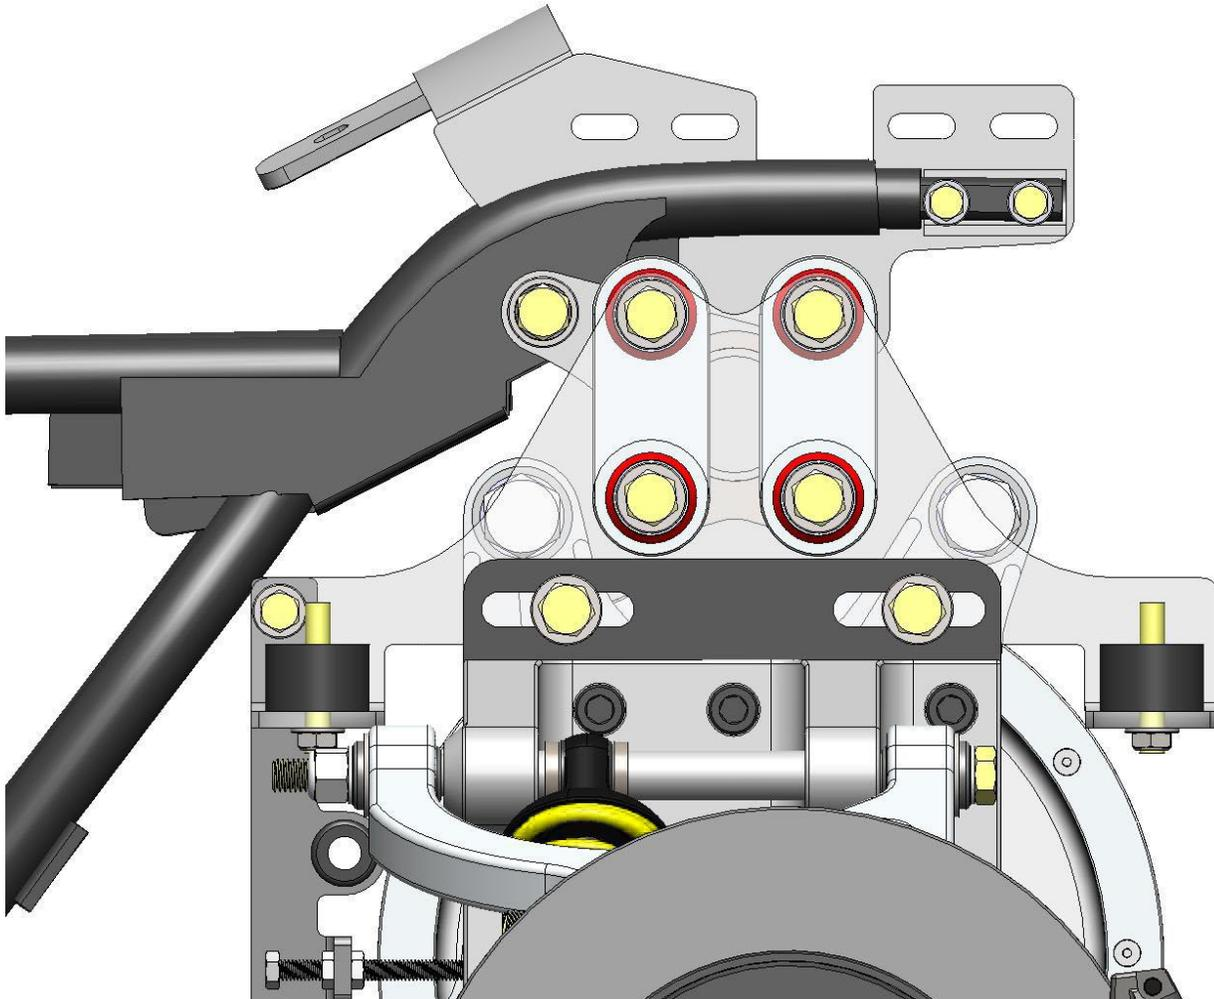

Figure 19
- a. Prior to Torquing down the top 1/2" bolts, ensure that vibration rockers are close to vertical (+ or - a few degrees is not a problem) as shown in Figure 19.